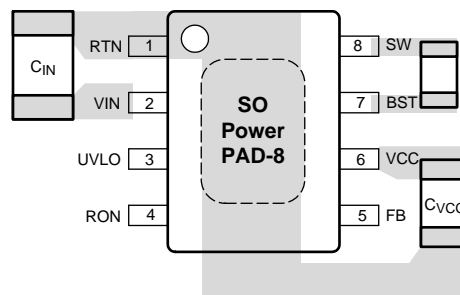

Figure 18. Placement of Bypass Capacitors
1. C_{IN} : The loop consisting of input capacitor (C_{IN}), V_{IN} pin, and RTN pin carries switching currents. Therefore, the input capacitor should be placed close to the IC, directly across V_{IN} and RTN pins and the connections to these two pins should be direct to minimize the loop area. In general it is not possible to accommodate all of input capacitance near the IC. A good practice is to use a 0.1 μF or 0.47 μF capacitor directly across the V_{IN} and RTN pins close to the IC, and the remaining bulk capacitor as close as possible (See Figure 18).
2. C_{VCC} and C_{BST} : The V_{CC} and bootstrap (BST) bypass capacitors supply switching currents to the high and low side gate drivers. These two capacitors should also be placed as close to the IC as possible, and the connecting trace length and loop area should be minimized (See Figure 18).